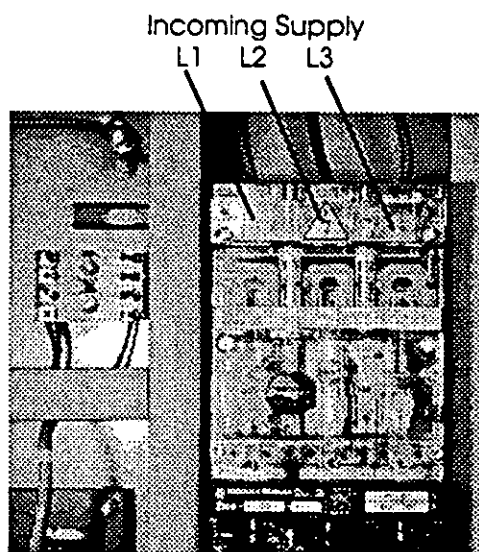

Figure 3.1
- Connect the incoming 3 phase supply (L1/L2/L3) to the main isolator as shown in figure 3.1.